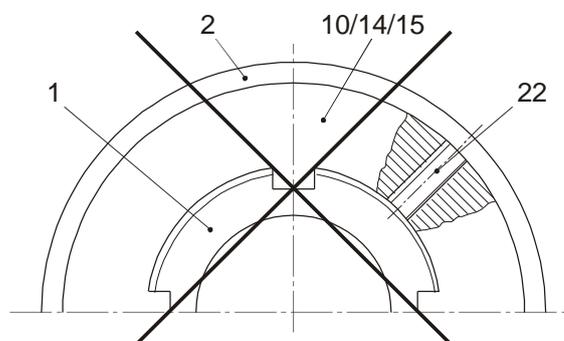
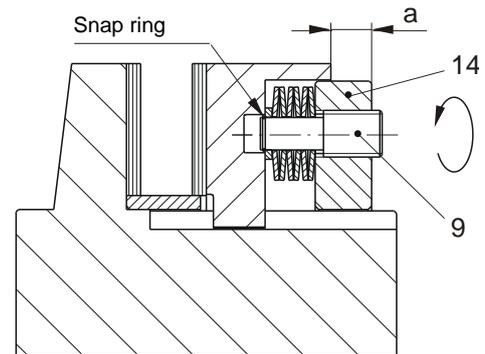
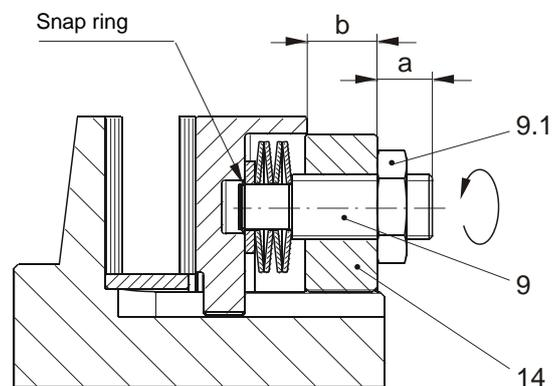

Fig. 22
Fig. 23
Fig. 25 Cup spring supporting bolt (9)
Clamping onto the thread as shown in Fig. 22 is not permitted.
On slip hubs Sizes 6 – 12, the distance dimension "a" indicates the size of the adjusted slipping torque (Figs. 23 and 25).
### Torque adjustment (Figs. 23 and 24)
1. Unscrew the set screw (22) from the adjusting nut (14).
2. Adjust the adjusting nut (14) including the relaxed cup spring supporting bolts (the cup spring supporting bolts (9) protrude from the adjusting nut (14)) to the required dimension "a" using a face wrench. Here, the face wrench pilots must be inserted into two hexagon sockets of the cup spring supporting bolts (9) in order to turn the adjusting nut (14).
Do not continue to turn the cup spring supporting bolts (9) against the snap ring resistance (Fig. 23).
3. The adjusting nut (14) must be secured by screwing the radially arranged set screw (22) into one of the 4 hub keyways.
Clamping onto the thread as shown in Fig. 22 is not permitted. If necessary, the adjusting nut (14) may have to be turned.
4. Then the cup spring supporting bolts (9) are turned in evenly, in steps of approx. 1/4 turns, until they are flush with the adjusting nut (14) (Fig. 23).
### Torque adjustment for countered cup spring supporting bolts (Fig. 25)
2. Adjust the adjusting nut (14) including the relaxed cup spring supporting bolts (the cup spring supporting bolts (9) protrude from the adjusting nut (14)) to the dimension "b" using a face wrench. Here, the face wrench pilots must be inserted into two hexagon sockets of the cup spring supporting bolts (9) in order to turn the adjusting nut (14).
Do not continue to turn the cup spring supporting bolts (9) against the snap ring resistance (Fig. 25).
4. Then the cup spring supporting bolts (9) are turned in evenly, in steps of approx. 1/4 turns until dimension "a" or the required torque is reached.
5. Counter the cup spring supporting bolts (9) with the hexagon nuts (9.1).